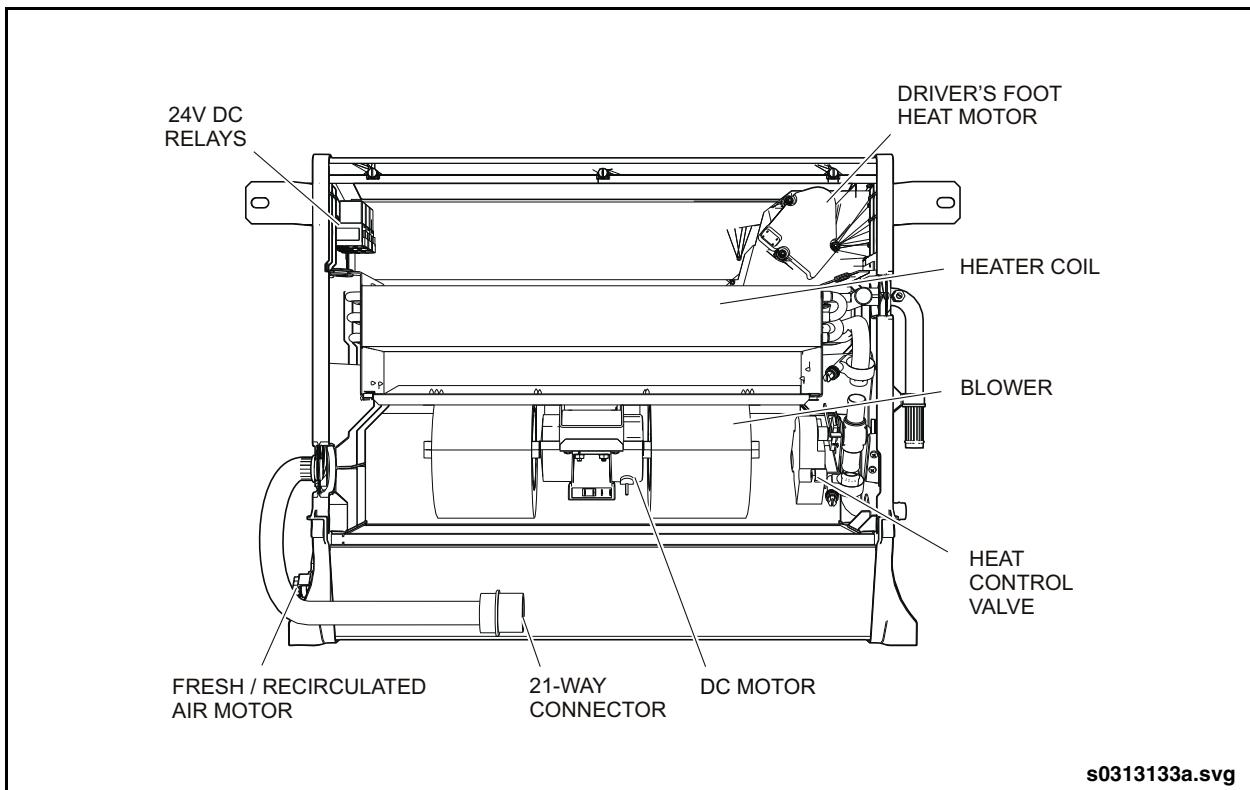

Fig. 10-9: Defroster Components
2. Open the defroster/wiper access door to gain access to the defroster power harness. See "Fig. 10-9: Defroster Components" on page 32.